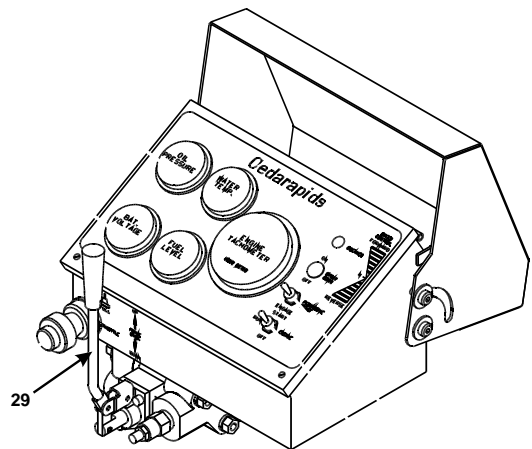

Figure 33
- Raise front of machine. Use the FRAME RAISE lever 29 (Figure 33) to provide ground clearance. (Maintain at least 2" of stroke in the cylinders. Do not extend front casters fully)
- Adjust height of machine to carry load on casters. Use FRAME RAISE lever (29) Figure 33 to adjust height of scraper blades so they are just touching the existing surface or roadway. (This will extend the life of wear parts).